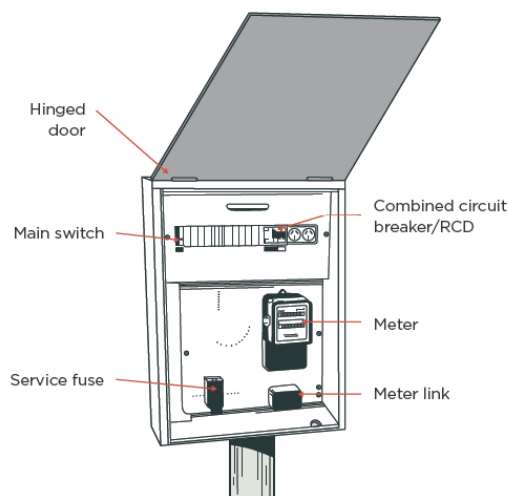

FIGURE 1: One style of builder's temporary
- A builder's temporary (see Figure 1) provides an electricity supply at a worksite where there is no existing connection. Only a licensed electrical worker can install, connect, modify or move a builder's temporary.